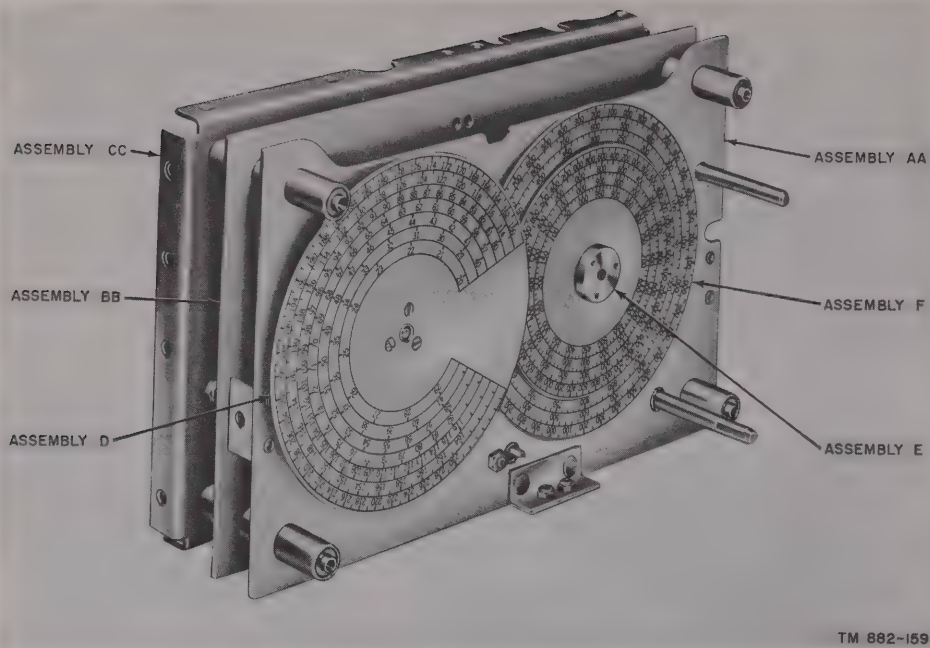

Figure 104. Control head, overall view.
(figs. 104, 105, 106, 122, and 123)
within the range of 20 to 230 mc. An overall view of the control head is shown in figure 104. The various parts of the control head are mounted on the control plate No. 1 assembly (AA), the control bearing plate No. 2 assembly (BB), and the control bearing frame No. 3 assembly (CC). Figure 105 shows the assemblies located between control bearing plate No. 1 and control bearing plate No. 2 (assemblies A-L); an exploded view of these assemblies is shown in figure 122. Figure 106 shows the assemblies located between control bearing plate No. 2 and control bearing frame No. 3 (assemblies M-X); an exploded view of these assemblies is shown in figure 123. Parts shown in figures 104, 105, 106, 122, and 123 are identified by a letter or a letter and number combination. When following the disassembly procedure, refer to figures 104, 105, and 106 to locate the assembly; then to figures 122 and 123 to locate individual parts of the assembly.
b. Partial Disassembly (figs. 104, 105, 106, 122, and 123). The control head parts are mounted on the control bearing plate No. 1 assembly (AA), the control bearing plate No. 2 assembly (BB), and the control bearing frame No. 3 assembly (CC). The procedure for partial disassembly is outlined below.
- (3) Slide stop collar L1 (fig. 122) on band switch tuning shaft U3 until L1 is flush with control bearing plate No. 2 assembly BB. Tighten three setscrews L3. Slide stops L4 and L5 over shaft U3. Spring-load assembly K by rotating intermediate gear No. 1 K1 counterclockwise three teeth positions. Maintain the proper tension by engaging tuning shaft gear J1 with assembly K. Slide rf to oscillator gear B1 and rf even band dial driver gear B2 on vernier drive shaft B5 and tighten setscrew B4. Spring-load assembly A by holding free oscillator antibacklash gear A5 and rotating fixed oscillator antibacklash gear A2 counterclockwise three teeth positions. Position assembly A so that main stop stud A4 will come in contact with main dial stop C5 when control bearing plate No. 1 is assembled (fig. 122). Maintain the proper tension on assembly A by engaging it with rf-to-oscillator gear B1. Figure 104 shows control bearing plate No. 2BB assembled to control bearing frame No. 3CC.
- (4) Spring-load gears H2 and H8 by rotating loose gear H2 counterclockwise one or two teeth positions. Maintain the proper tension by engaging the gears with assembly G. Spring-load gears H1 and H4 by rotating loose gear H1 counterclockwise one or two teeth positions. Use a paper clip or similar device to maintain the proper tension on these gears. Spring-load gears C1 and C4 by rotating loose gear C4 counterclockwise one or two teeth positions. Use a paper clip or similar device to maintain the proper tension. Figure 104 shows the assemblies contained on control bearing plate No. 1 assembly AA.
- (5) Place control bearing plate No. 1 assembly AA over control bearing plate No. 2 assembly BB. Place spacer posts DD3 at each corner to maintain proper spacing